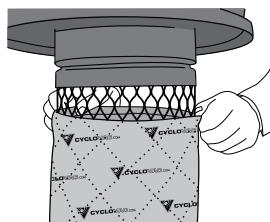

figure 15
3. Both filters must be completely dry before they are reinstalled. Carefully install them in the support grooves (**figure 15**) on the filter frame to ensure adequate protection of the motor. Install the Cyclofiltre (thick fabric) first, and the anticlogging filter (thin fabric) over.